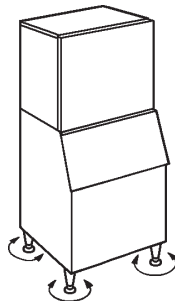

Fig. 6
- 8) Adjust the four legs on the bottom (adjustable from 0 to 25.4 mm) to have the icemaker perfectly horizontal. Use the spirit level. See Fig. 6.